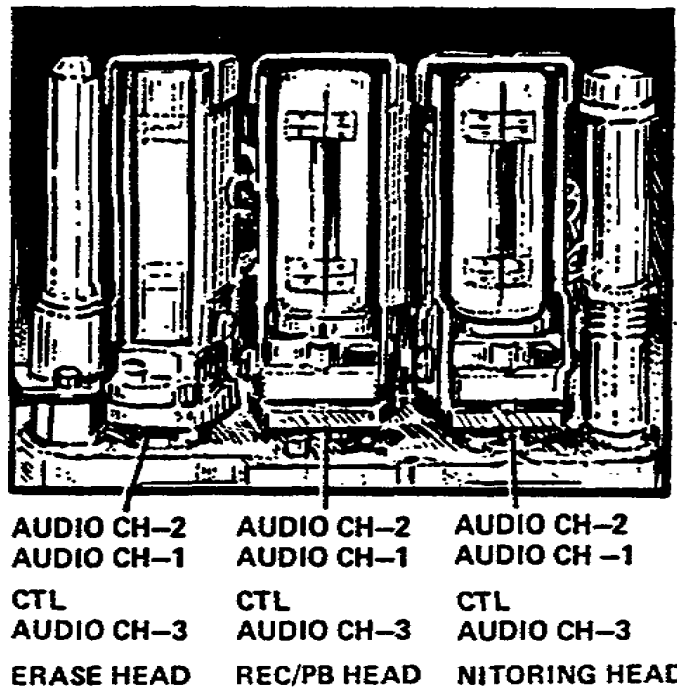

Figure 1-17. Audio record/playback head (typical)
b. Audio record/playback head. An electromagnetic head (fig 1-17) is designed for the audio-frequency range. The physical dimensions track width of .012 to .043 mils varies according to specific designs, mountings, etc.
b. The video helical scan record/playback head is different from the audio head in appearance and physical dimensions. In Figure 1-5, an enlarged illustration of 1-inch wide tape, you received an idea of the pattern recorded by the video head. Figure 1-17 illustrates the manner of placing all information by means of the various heads on the tape.